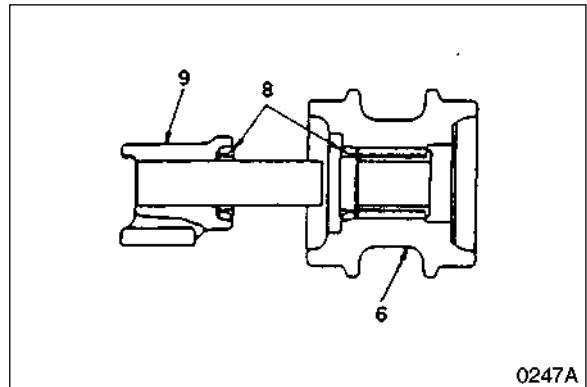

Figure 48
2. Insert group seal (8, Figure 48) into the roller (6) and bushing.